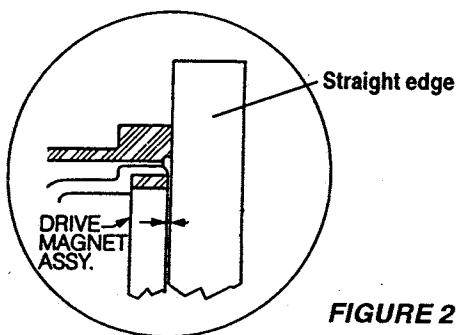

FIGURE 2
3. Install motor adapter onto motor (labels at top) and secure with motor bolts and washer (Items 14 & 15) from hardware package. Refer to Figure 2.
4. Slide drive magnet assembly (Item 8) onto the motor shaft until it is recessed 1.588 mm [1/16" (.0625") + or -.005"] below the surface of the face of the motor adapter (place a straight edge across the face of the motor adapter to make measurements easier). See Figure 2.